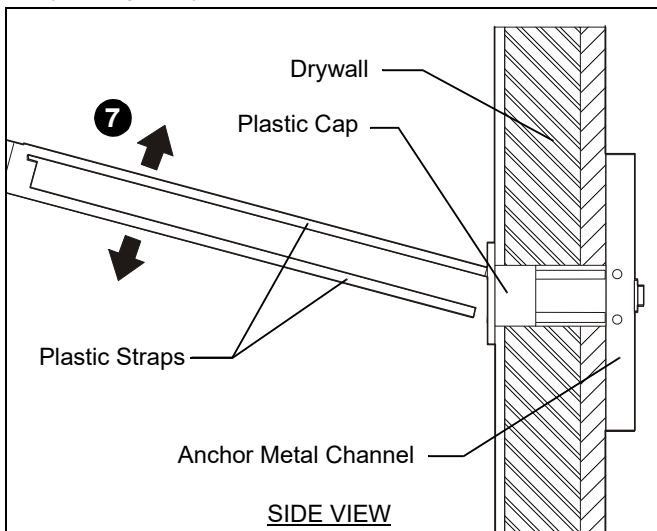

Figure 9
7. Snap off plastic straps on anchor at wall by pushing side to side, snapping off straps level with flange of plastic cap. (See Figure 9)